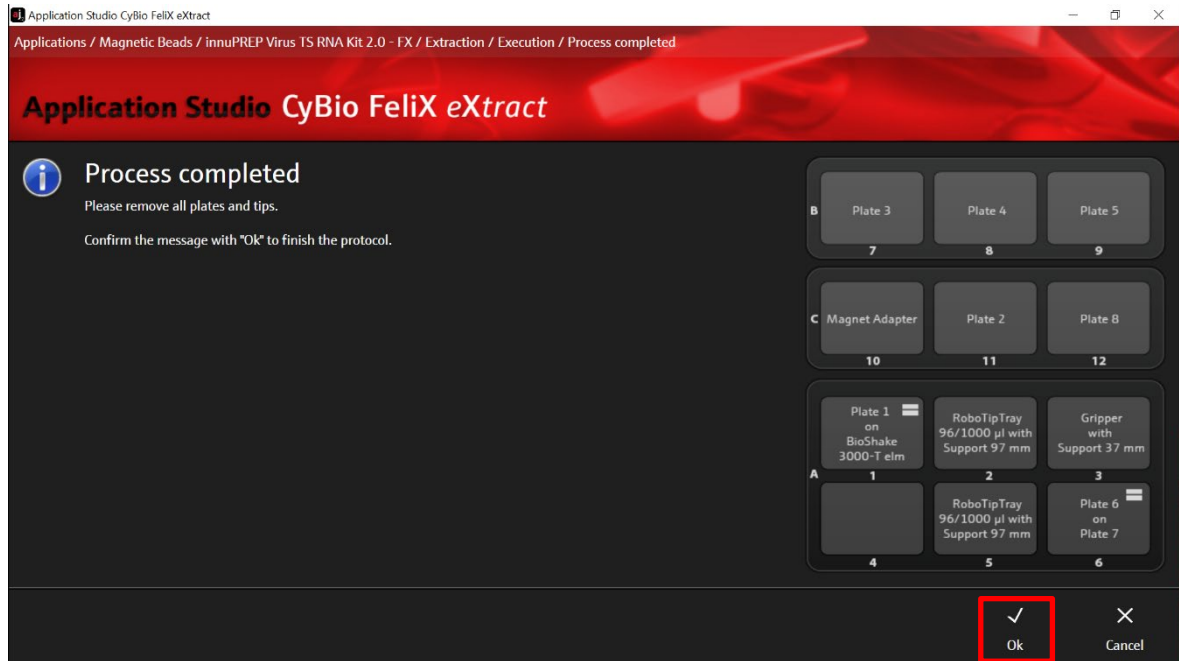
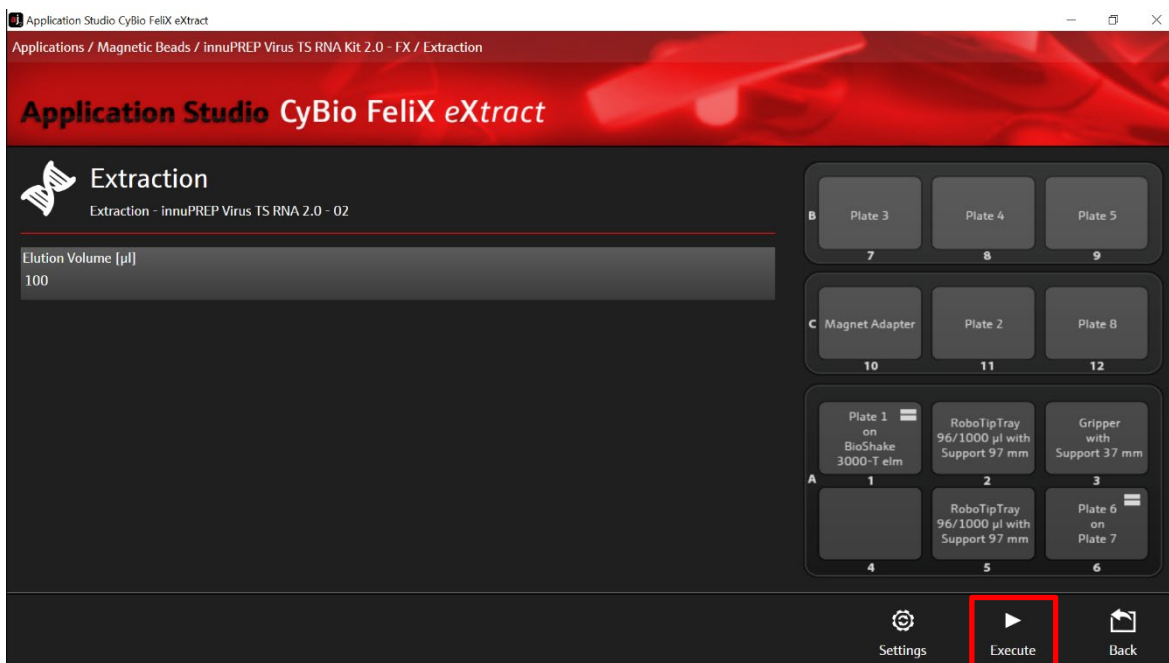

Figure 18: Process completed.
Figure 24: Adjustment of the elution volume.
1. Load all plates and accessories according to the scheme below (→ see Figure 18).
- After selecting "Execute" the screen with the deck layout appears. Check the correct positioning of the plates and accessories referring to the deck layout above (\rightarrow see Figure 18) and confirm with "Ok" to start the protocol (\rightarrow see Figure 24).